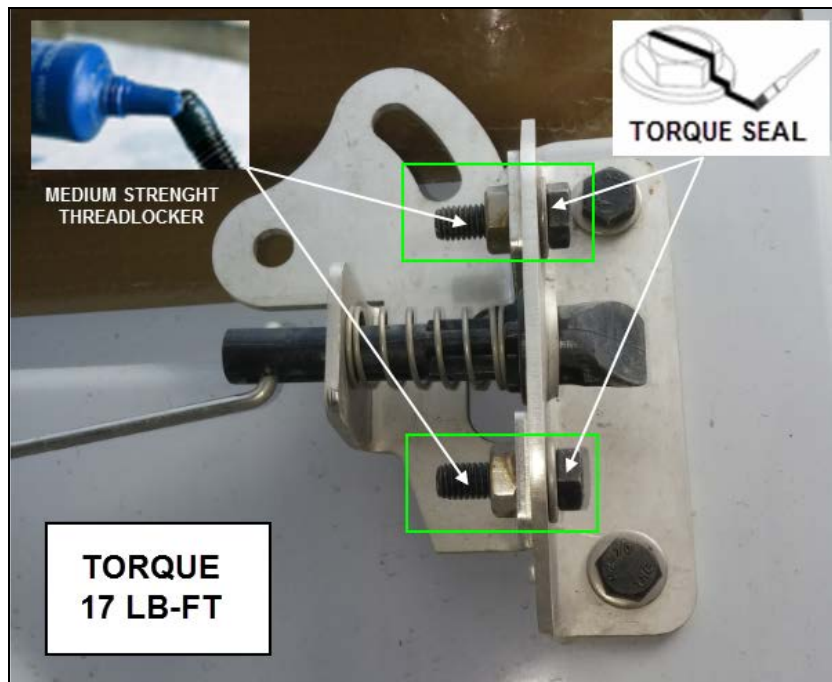

FIG.16 TIGHTENING LATCH BOLTS
15. Put medium strength threadlocker (Loctite blue 243 or equivalent) to the bracket screw threads and tighten the bracket to the door support. **Torque to 17 lb-ft**. Apply tamper proof indicator paint (torque seal) to the bolt heads (Fig.16).